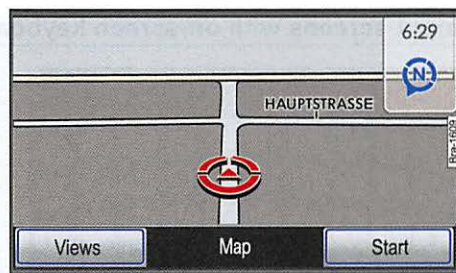

Fig. 43 Vehicle location in the map view.
- In the *Navigation* main menu, press the **NAV** button in order to switch to the map view $\Rightarrow$ fig. 43.